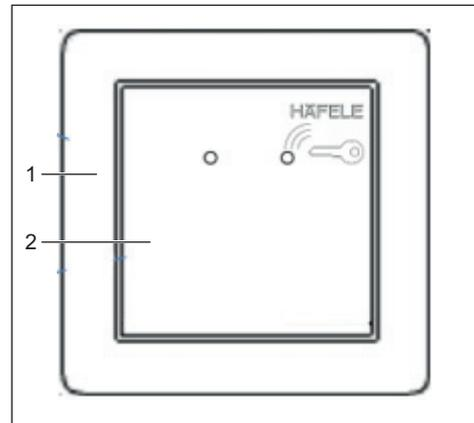

Fig. 2: WRU 220 reader with frame
4. Fix the switch frame (fig. 2/1) to the reader with the supplied cover (fig. 2/2).